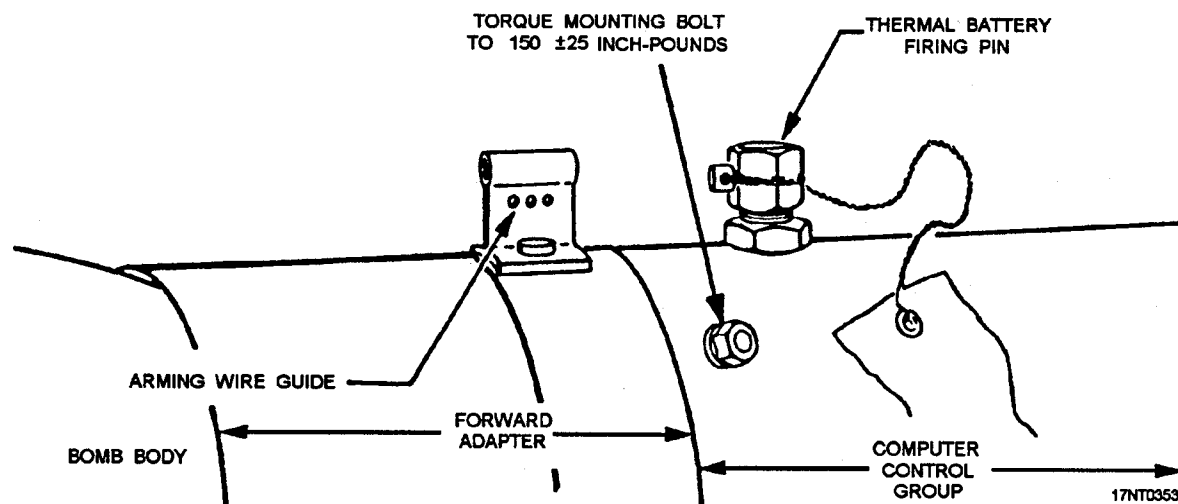

Figure 13-23.—Computer control group installation.
2. Ensure thermal battery firing pin assembly safety wire and pull-out pin are installed (fig. 13-23).
8. Position CCG on forward adapter (fig. 13-23), and align thermal battery firing pin assembly with arming wire guide on forward adapter.